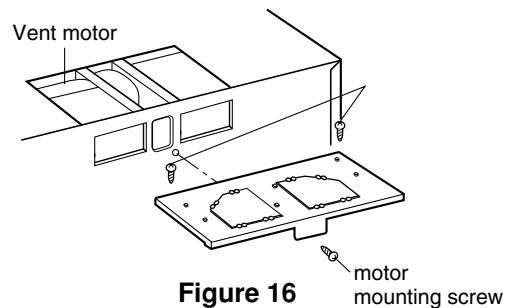

Figure 16
1. Remove one motor mounting screw and two mount-all mounting screws. Remove the mount-all from the oven. See Figure 16.
5. Reattach the mount-all. Attach the motor mounting screw and then two mount-all mount screws. See Figure 16.